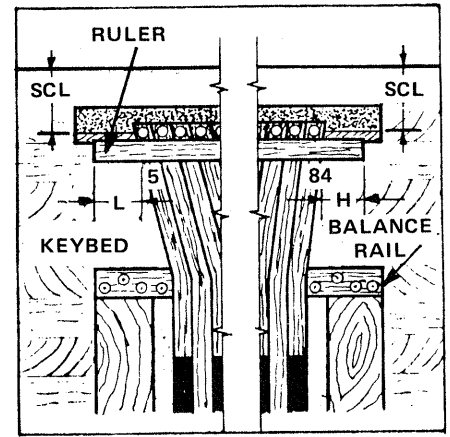
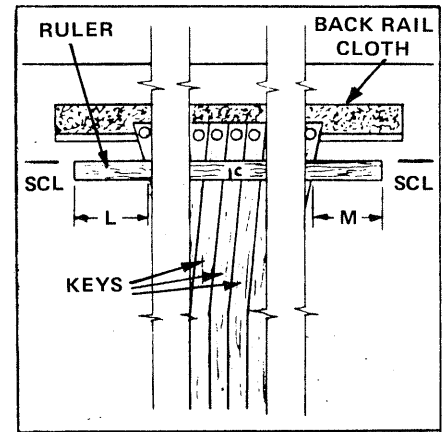
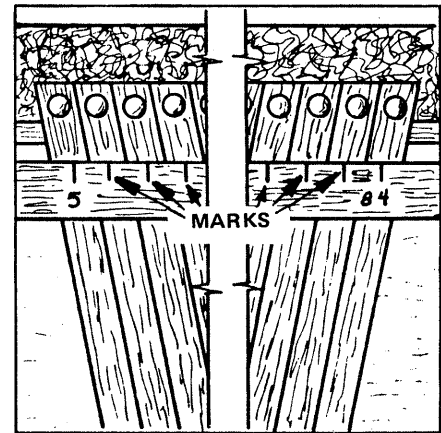

FIGURE 1-50 Center the Ruler on the Keys.
FIGURE 1-51 Ruler centered in front of the Capstan Screws.
FIGURE 1-54 Mark the centers of the Keys.
Align the BACK edge of the Solenoid Alignment ruler with the SCL marks, adjust the position of the Ruler until the amount it extends past the OUTSIDE edges of the first and last keys (5 and 84) is equal. Measure to verify that the amount of overhang is equal and make sure the BACK edge of the Alignment Ruler is aligned with the SCL marks as shown in FIGURE 1-50. In the Figure, dimensions L and M are equal. See the NOTES below.
1. In the example shown in FIGURE 1-50, the SCL marks are at the centers of the Capstan Screws (the ideal position for the Solenoid Centerline). If the SCL marks are in FRONT of the Capstan Screws, the Ruler would then be aligned as shown in FIGURE 1-51. If this is the case, you must still make sure the Ruler is centered on the Keys (dimensions L and M are equal).
- B. If the Solenoid Alignment Ruler is set in front of the Capstan Screws as shown in FIGURE 1-51 on the previous page, mark the centers of the Keys as shown in FIGURE 1-54. (This is done so the Key Solenoids strike in the centers of the Keys.) Label the first and last marks "5" and "84", respectively, then set the Ruler aside or give it to your assistant, if you have one, so he will have it available when he is ready to align the Key Solenoids in Section 5.